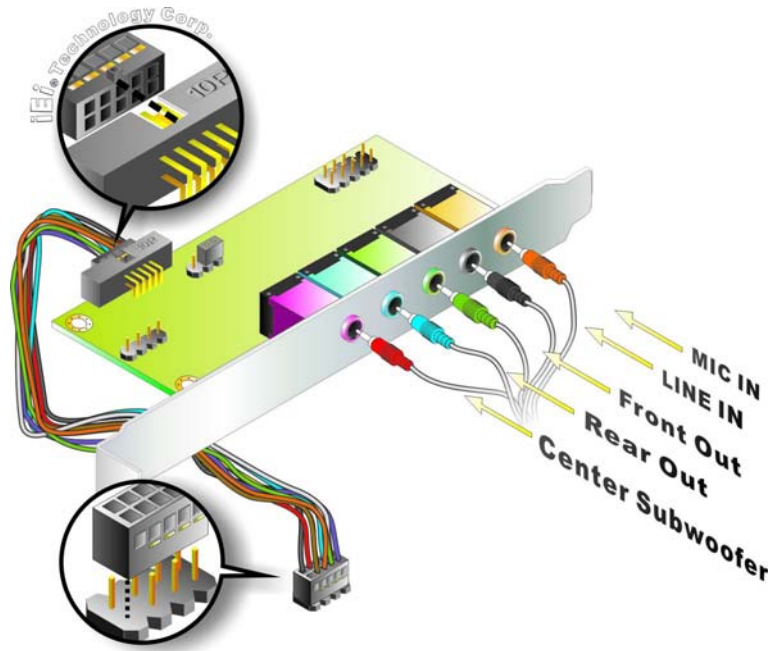

Figure 5-11: Audio Kit Connection
Step 2: Align pin 1. Align pin 1 on the onboard connector with pin 1 on the audio kit connector. Pin 1 on the audio kit connector is indicated with a white dot. See **Figure 5-11**.
Step 3: **Connect the audio devices.** Connect the speakers and the subwoofer to the appropriate audio jack shown in **Figure 5-11**.